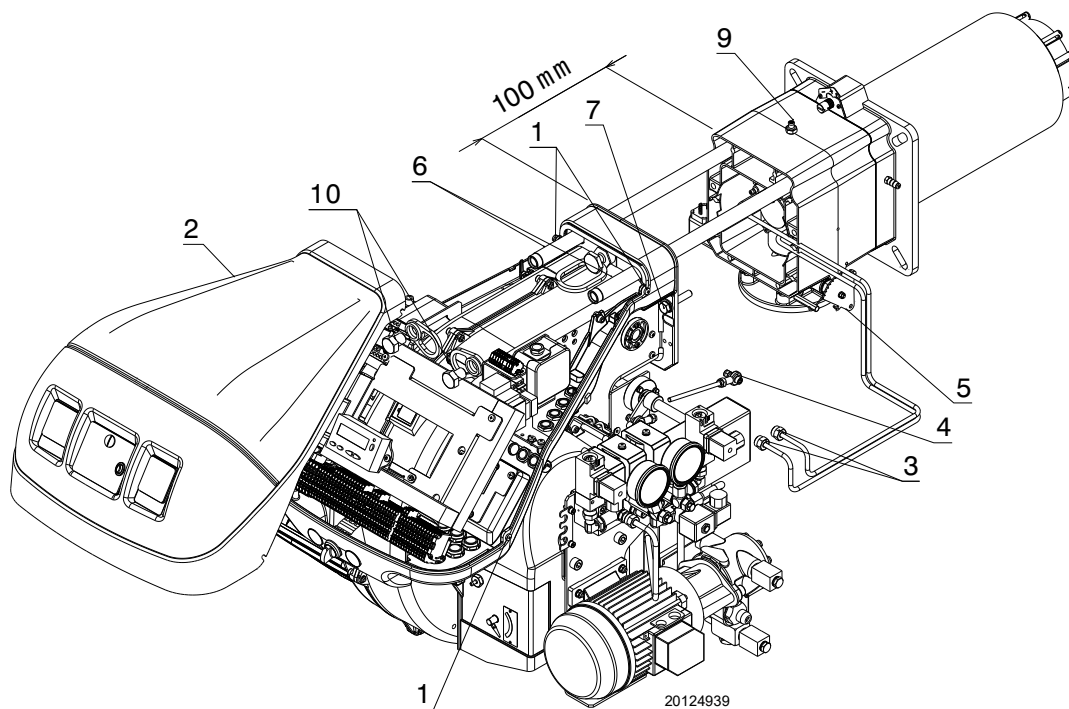

Fig. 57
- Loosen the 4 screws 1)(Fig. 57) and remove the hood 2);